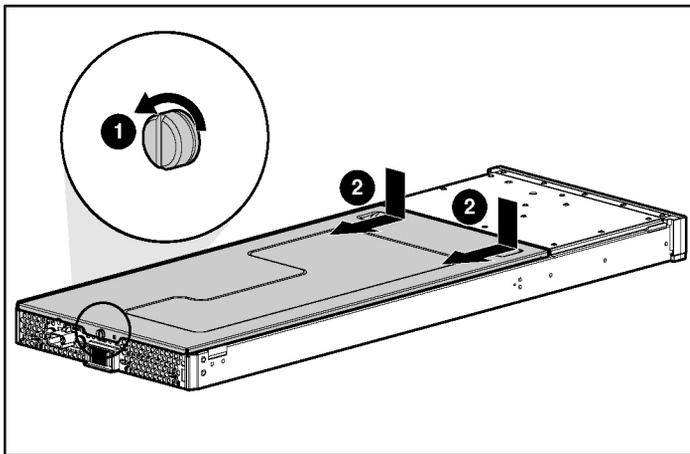

Figure 1-2: Removing the access panel
1. Remove the access panel. Refer to Figure 1-2.
- a. Turn the quarter-turn standoff latches on the Smart Array 5i Plus Controller module counter-clockwise (1).
- b. Lift the Smart Array 5i Plus Controller module from the system board (2).
- c. Turn the quarter-turn standoff latches on the standard NIC module counter-clockwise (3).
- d. Lift the standard NIC module away from the system board (4).